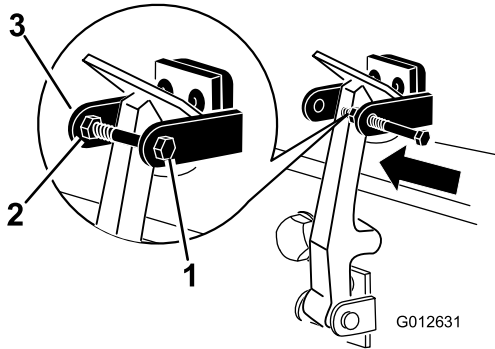

Figure 9
8. Install the bolt into the other arm of the hood-lock bracket to lock the latch in position (Figure 9).